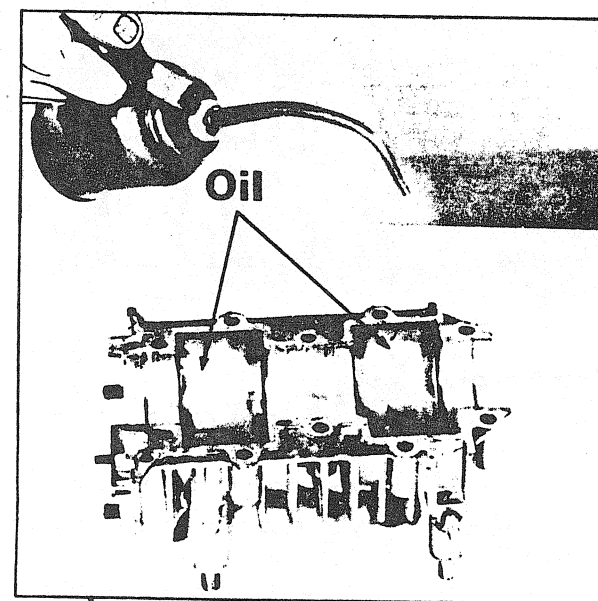

FIGURE 28
- Oil the two (2) counterweight recesses of the crankcase lower half. (Fig. 28).